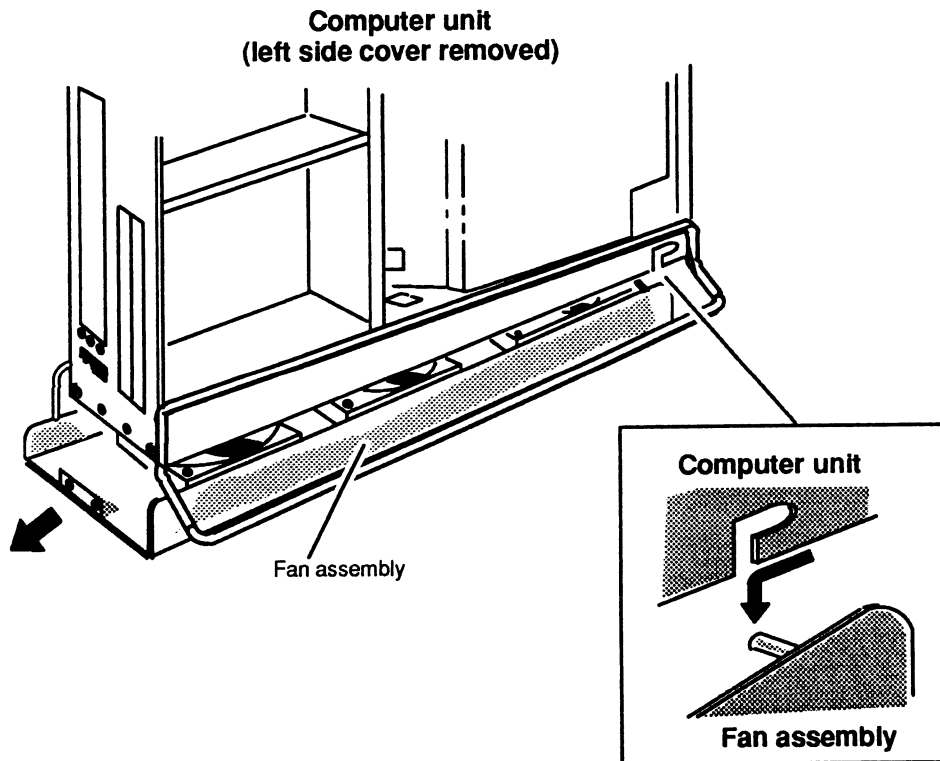

Figure 6-14 Removing the Fan Assembly from the Computer Unit
3. Support the bottom of the fan assembly, and pull it out and down to disengage it from the computer unit as shown in Figure 6-14.